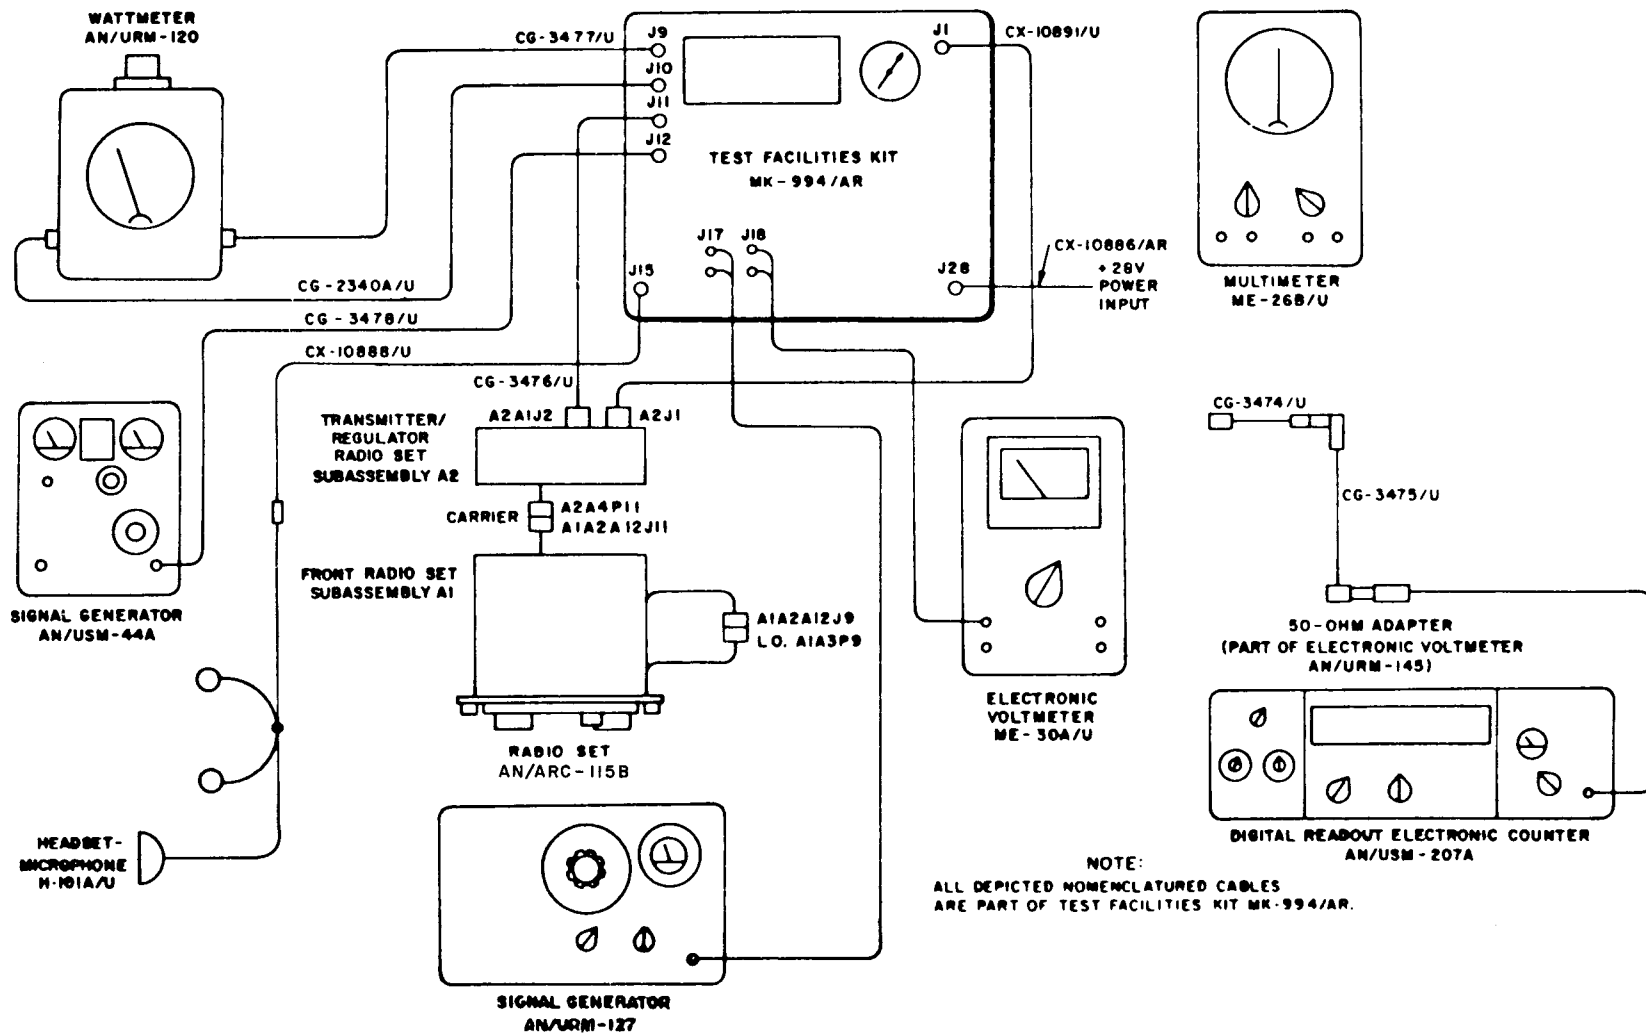

Figure 2. Radio Set Test Setup Diagram
- (1) Mate the transmitter/regulator radio set subassembly A2 to the radio set.
- (2) Connect the test equipment as shown in figure 2.
- (3) Adjust the dc power input to J28 on the test facility kit to 28 Vdc  $\pm 0.5$ .
- (4) Perform the test procedures given in table 1.